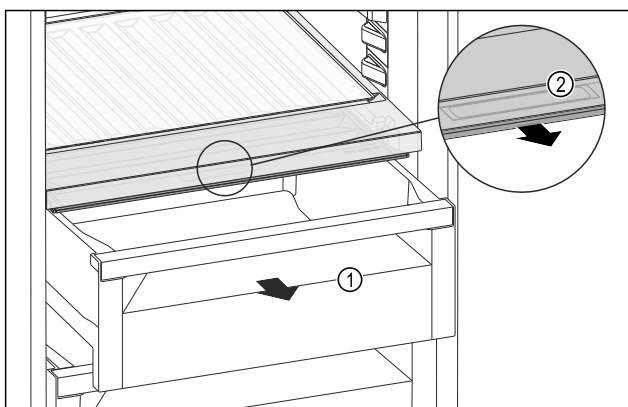

Fig. 162
- ▶ Pull out the drawer Fig. 162 (1).
- ▶ Grasp the recessed grip Fig. 162 (2) on the compartment lid and pull the compartment lid forwards at the same time.